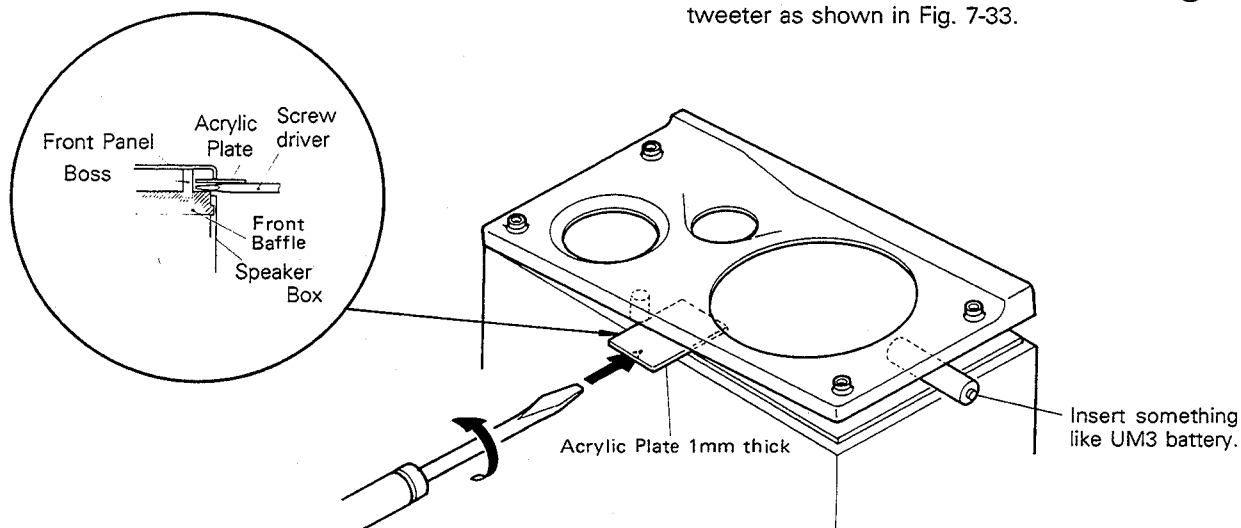

Fig. 7-31
5. When there is a gap between the front panel and the speaker box, insert something like a UM-3 battery into it as shown in Fig. 7-31.
7. In order to prevent the front panel from damage, insert an ordinary screwdriver between the front panel and the acrylic plate as shown in Fig. 7-31, then lift the front panel upward using the front baffle plate as a fulcrum.